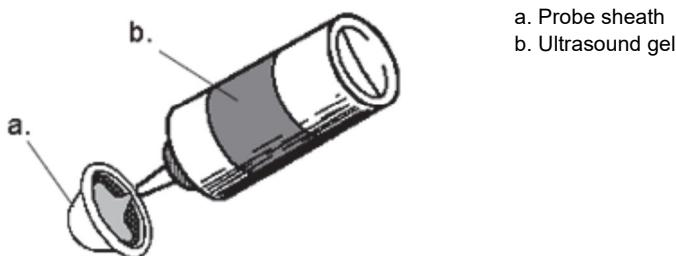

Figure 9-20. Ultrasound Gel Placement
2. Fill the probe sheath with acoustic coupling gel (Figure 9-20).